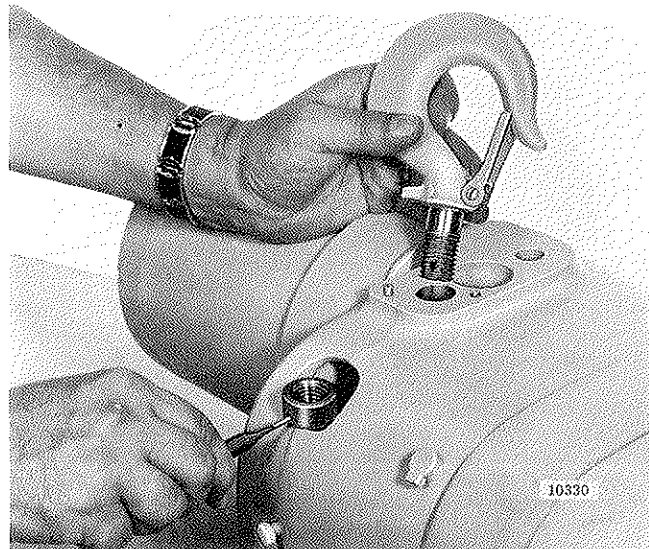

Figure 7-25. Removing Upper Hook and Hook Nut From Hoist Frame (1/8 thru 1 ton models)
(1) On 1/8 thru 1 ton models, drive pin from hook nut using drift punch and unscrew upper hook. Nut is reached thru access hole in side of hoist frame. See figure 7-25.